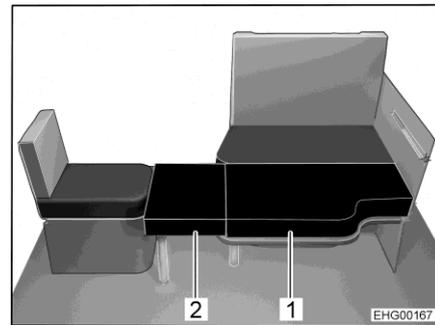

Fig. 114 After conversion
Together with the individual seat on the side and the lowered table top of the suspension table, the divan can be converted into an additional bed. Two additional cushions (Fig. 114,2) is equipped with a fold-out footrest and an angle bracket. The other additional cushion (Fig. 114,1) is placed on the table top.
- Fold footrest out on the smaller additional cushion (Fig. 114,2).
- Hook angle bracket of the additional cushion (Fig. 114,2) into individual seat and place additional cushion on the table top.
- Place the second additional cushion (Fig. 114,1) on the table top.